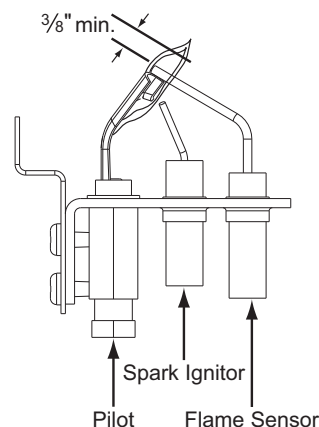

Figure 19: Proper Flame Adjustment
1. **Limit Switch (LS)** - This control is located inside the heat exchanger compartment and is set to open at the temperature indicated in the Temperature Controls Table of the unit wiring diagram. It resets automatically. The limit switch operates when a high temperature condition caused by inadequate supply air flow occurs, thus shutting down the ignition control and closing the main gas valve and energizing the blower.
2. **Pressure Switch (PS)** - If the draft motor should fail, the pressure switch prevents the ignition controls and gas valves from being energized.
3. **Flame Sensor** - The flame sensor and controls are located per Proper Flame Adjustment Figure 19. If an ignition control fails to detect a signal from the flame sensor indicating the pilot flame is properly ignited, then the main gas valve will not open.
4. **Rollout Switch (RS)** - This switch is located in the burner vestibule. In the event of a sustained main burner flame rollout, it shuts off the ignition control and closes the main gas valve.
- NOTE:** The manual reset **Rollout Switch (RS)** must be reset before allowing furnace operation.
5. **Auxiliary Limit Switch (ALS)** - This control is located inside the heat exchanger compartment and is set to open at 160°F. It is a manual reset switch. If ALS trips, then the primary limit (LS) has not functioned correctly. Replace the primary limit LS.
3. The pilot flame should envelope 3/8" of the end of the flame sensor and not contain any yellow color, see Figure 19.